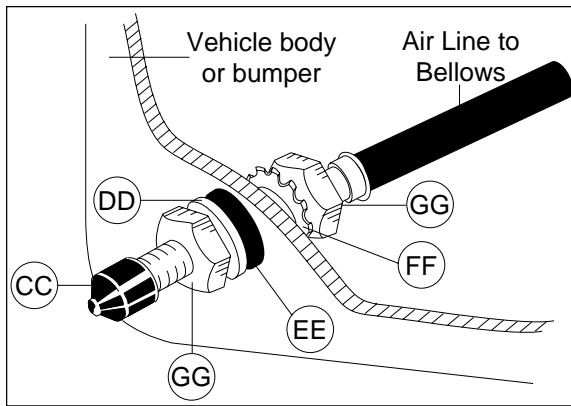

Figure 6
- Place a $\frac{5}{16}$ " nut (GG) and a star washer (FF) on the air valve. Leave enough of the valve in front of the nut to extend through the hole and have room for the rubber washer (EE), flat washer (DD), and $\frac{5}{16}$ " nut (GG) and cap (CC). There should be approximately $\frac{1}{2}$ " of the valve exposed after installation to easily apply a pressure gauge or an air chuck (Figure 6).
- Push the inflation valve through the hole and use the rubber washer (EE), flat washer (DD), and another $\frac{5}{16}$ " nut (GG) to secure it in place. Tighten the nuts to secure the assembly in place (Figure 6).